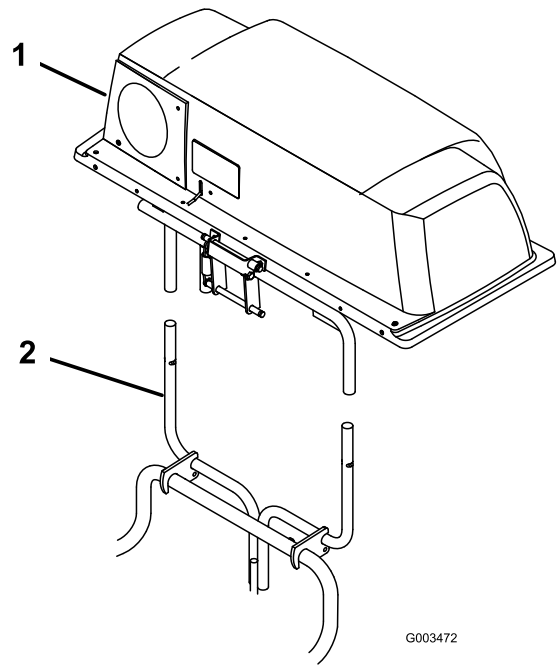

Figure 25
2. Carefully lift the bagger top and slide it off the quick attach bracket (Figure 25). The bagger top is easier to remove if two people work together.